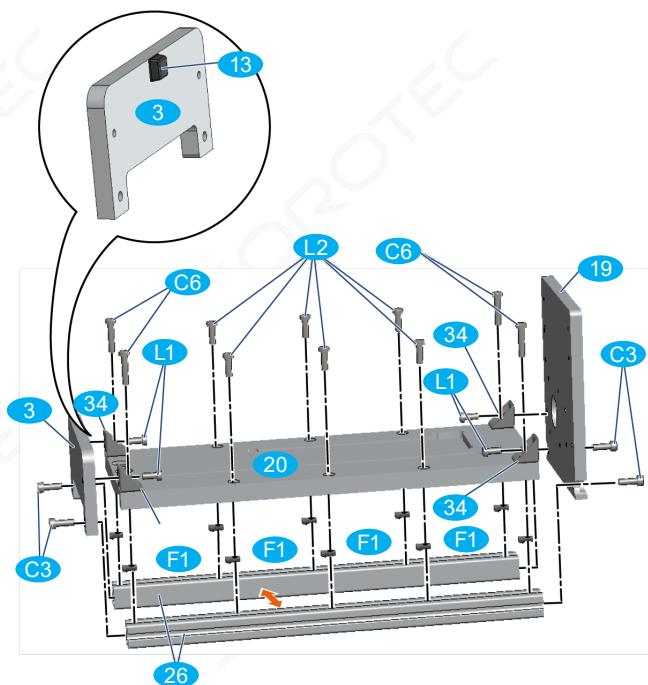

Fig. 38: Assembly of the Z-axis assembly
- Degrease the adhesive surface on the stop plate Z 3 (see magnifying glass in Fig. 38) and stick on the device foot 13 as a stop buffer.
- Slide profiles 26 onto the hammer nuts; It should be noted that the closed sides of the profiles face each other on the inside (red double arrow in Figure 38).